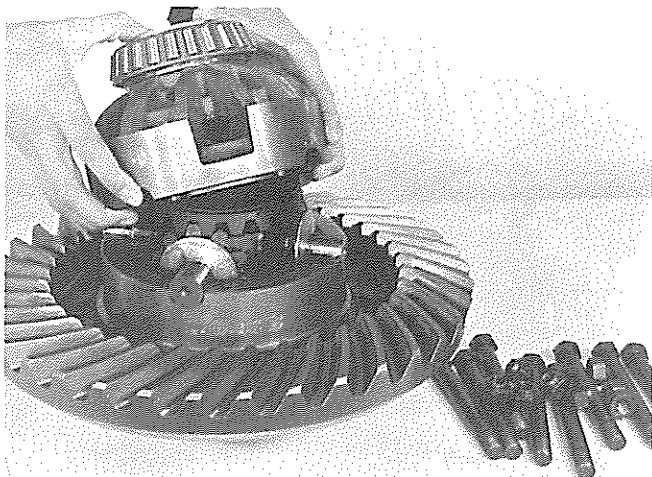

FIG. 95
- Place pinions and thrust washers on differential spider, lubricate, and set in position on installed side gear. Lubricate and install remaining side gear and thrust washer on pinions (Fig. 95). On axle Part Nos. 130068, 130069, 131078, 131079, and 131599, be sure hole in side gear thrust washer engages dowel projecting from thrust washer bearing surface in differential case half.